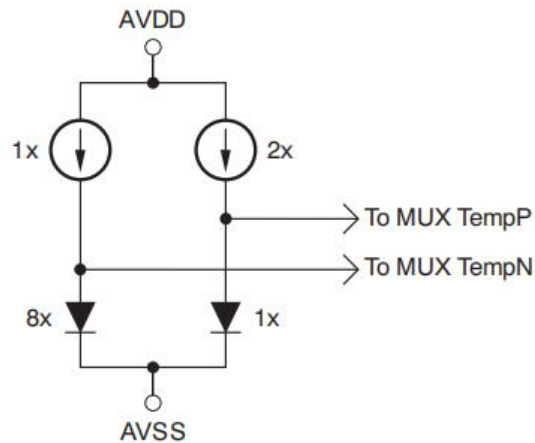

Figure 9.3.2 Illustration of Temperature Sensor Measurement Inputs
- (1) Chip Noise Measurement Setting CHnSET[2:0] to 001 shorts the P/N terminals of the channel and sets a common-mode voltage of $[(V_{VREFP} + V_{VREFN})/2]$ for both channel inputs. This configuration can be utilized for testing the inherent noise of the chip.
- (2) Test Signal (TestP and TestN) Configuring CHnSET[2:0] to 101 introduces an internally generated test signal to the P/N terminals of the channel. Details regarding the internal test signal can be found in the CONFIG2 register description.
- (3) Temperature Sensor (TempP, TempN) The CBM24AD99Q incorporates an on-chip temperature sensor, which employs two internal diodes, with one diode having a current density sixteen times that of the other, as depicted in Figure 9.3.2. The disparity in diode current densities generates a voltage difference proportional to the absolute temperature. Owing to the low thermal resistance from the package to the printed circuit board (PCB), the internal chip temperature is closely correlated with the PCB temperature. Note that self-heating of the CBM24AD99Q can lead to internal temperature readings higher than the ambient temperature of the surrounding PCB. Setting CHnSET[2:0] to 100 routes the temperature sensor signals to the P/N terminals of the channel.